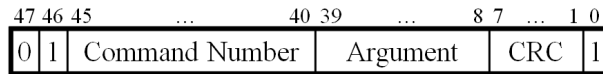

Figure 4: Format of a 48-bit command for an SD card.
Communication with the SD card is performed by sending commands to it and receiving responses from it. A valid SD card command consists of 48 bits as shown in Figure 4. The leftmost two bits are the start bits which we set to (01). They are followed by a 6-bit command number and a 32-bit argument where additional information may be provided. Next, there are 7 bits containing a Cyclic Redundancy Check (CRC) code, followed by a single stop bit (1).